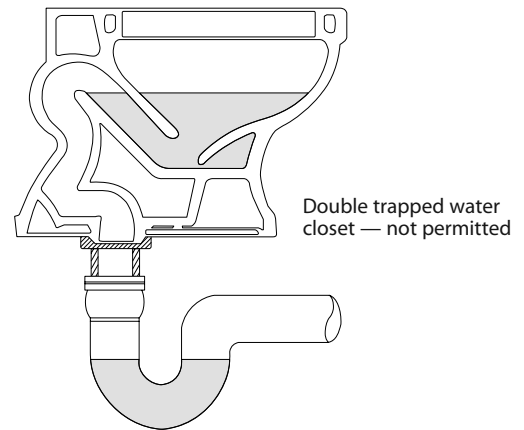

Figure 4-5
- Each plumbing fixture must be separately trapped by a water seal trap with the following exceptions: water closets, urinals or similar fixtures that have integral traps. No fixture can be double trapped. See Figure 4-5.